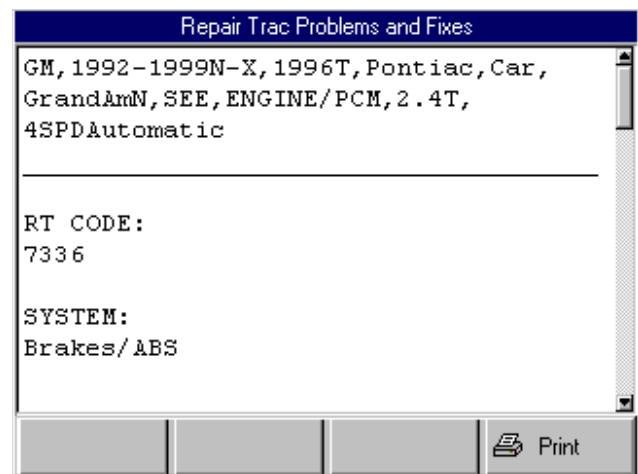

Figure 10.4: Repair Trac Problems and Fixes Screen
- 4 **Select a symptom to view** and press the **ENTER** key. This displays the Repair Trac Problems and Fixes screen (Figure 10.4).